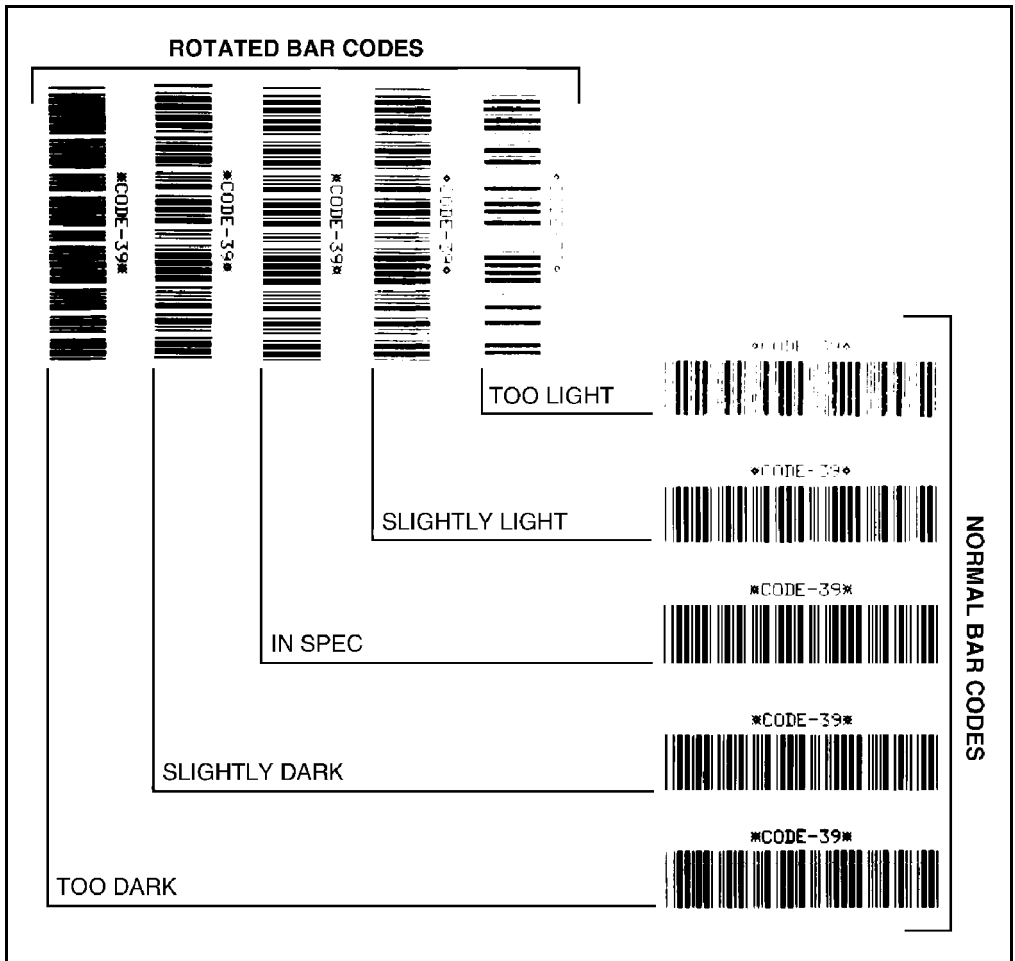

Figure 29
5. Compare the test label printed to the bar codes in Figure 29 on page 87. If the test label appears too dark or too light, increase or decrease the darkness setting accordingly.